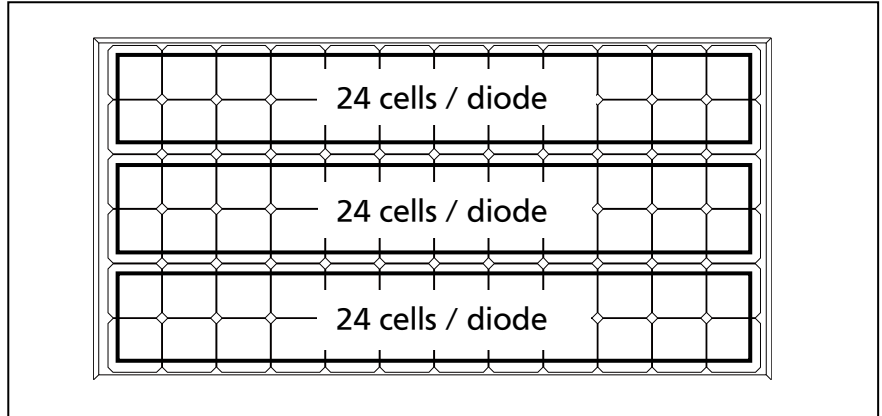

Figure 4-1: Number of series cells per bypass diode
- Specifications of bypass diode for VBHNxxxSE series are as follows; Number of bypass diode: 3 diodes, Number of series cells per bypass diode: 24 cells / diode (See Figure 4-1).